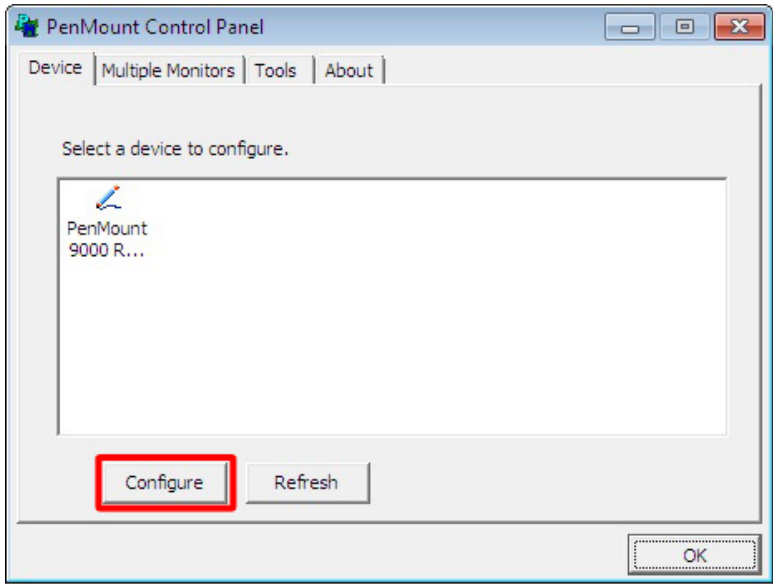

Figure 3-31: Touchscreen Control Panel
Step 3: The touchscreen control panel appears (**Figure 3-31**). Click **Configure**.